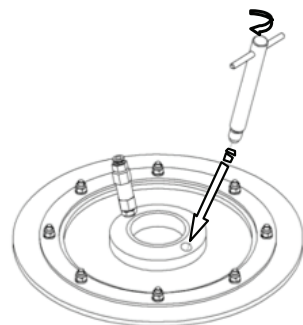

Fig. 7
- When the air stops and the material starts oozing from the follower plate bleed hole, insert the follower plate bleed rod and screw it fully in (Fig. 7).